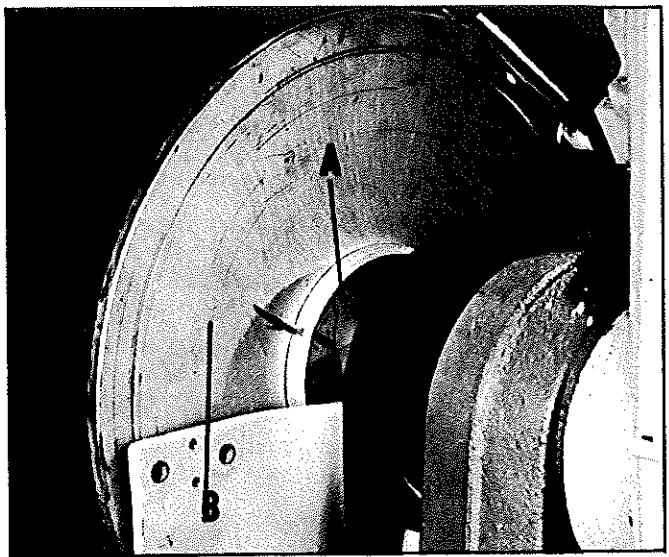

Fig. 26
3. Make a scribe line on the flange (A) Fig. 26, extending it onto the back of disc wheel (B). When reassembling the flange and disc wheel, make sure the scribe lines coincide with each other.